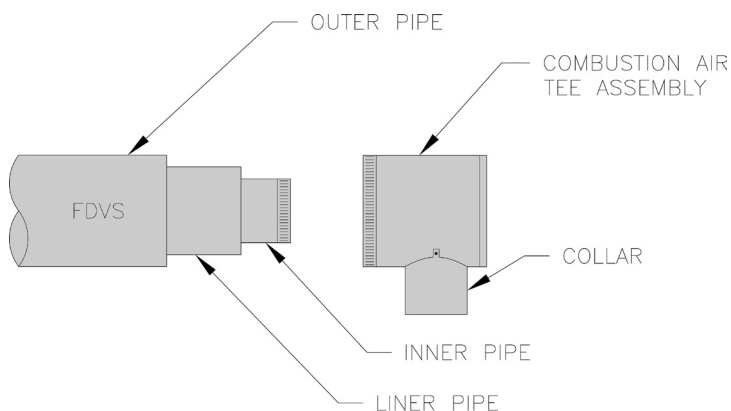

Figure 5-5: Combustion Air Tee Assembly Installation
1. Assemble the vent hood tee body to the vent hood outer pipe, and, rotate the tee, so air intake inlet collar is in the desired position. See Figure 5-5.